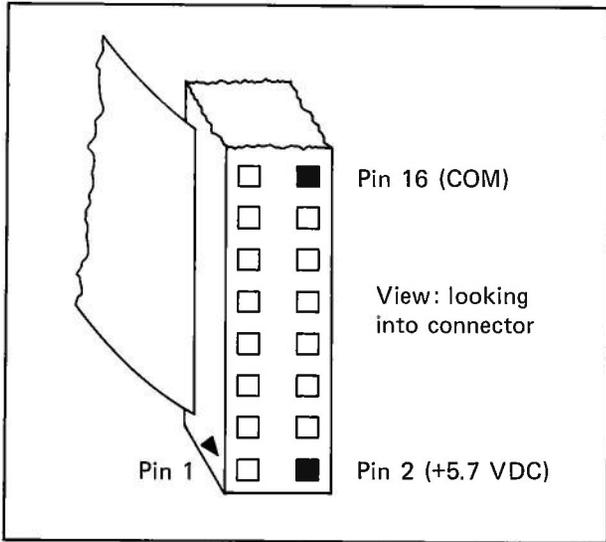

Figure 7 – 50-pin Female Connector on Cable
Step 12 – Locate pin 2 (+5.7 VDC) and pin 16 (COM) on the connector of the Distribution Panel Cable. (See Figure 7.) Use a digital voltmeter to adjust the external power supply output voltage for +5.7 VDC (± 0.05 V). Pin 16 should be negative with respect to pin 2.